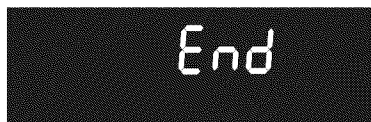

Fig. 1
1. **END** will appear in the display window and the oven will shut-off automatically (See Fig. 1).